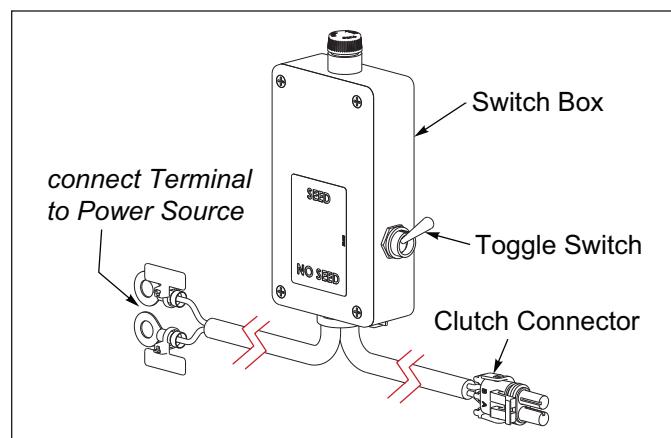

Figure 2-23: Switch Box Assembly
4. **Clutch Switch Box:** Connect Clutch Harness to Clutch Switch Box Cord. Connect Clutch Switch Box Cord with Ring Terminals to tractor power source. **See Figure 2-23.** Ring Terminals can be removed and replaced with a different power source connector.